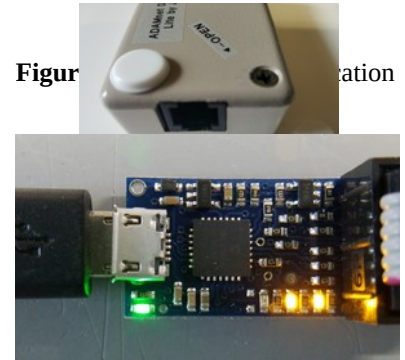

Figure 2: Pololu USB Programmer Connections and LED Indicators
6. Attach the USB cable from the computer to the USB connector of the Pololu programming device. See Figure 2.
8. Verify programmer LEDs are illuminated as per Figure 2 to validate that 5v power is being applied by the programmer. You can now safely close the Pololu USB programming software configuration program.
9. Attach the 6-pin ribbon cable from the programmer to the SV1 connector inside the ADEL/ADEM. The red strip on the ribbon designates Pin-1 of the connector. See Figure 2 and 3 for details.